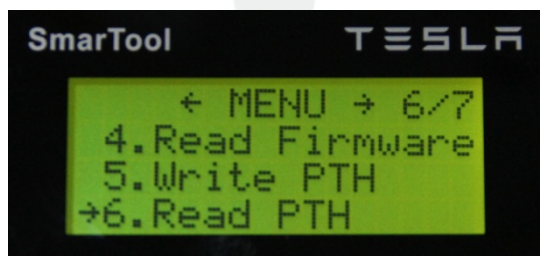

Figure 3
6. Press the down button to scroll to Read PTH (Figure 3). Press the ENTER button.